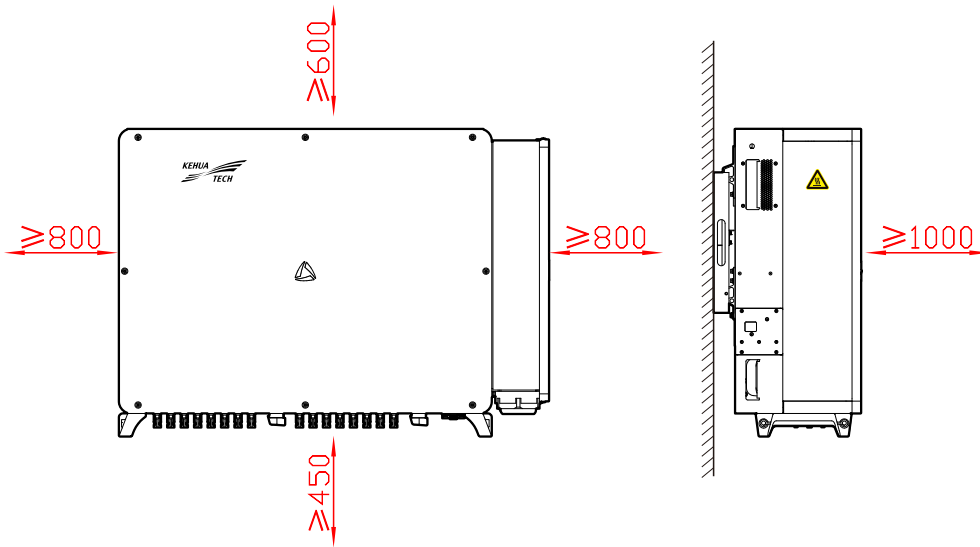

Figure3-4 Installation space (unit: mm)
- Ensure there has enough space around inverter, which is good for heat dissipation or maintenance. The installation space requirement of inverter is as shown in Figure3-4.